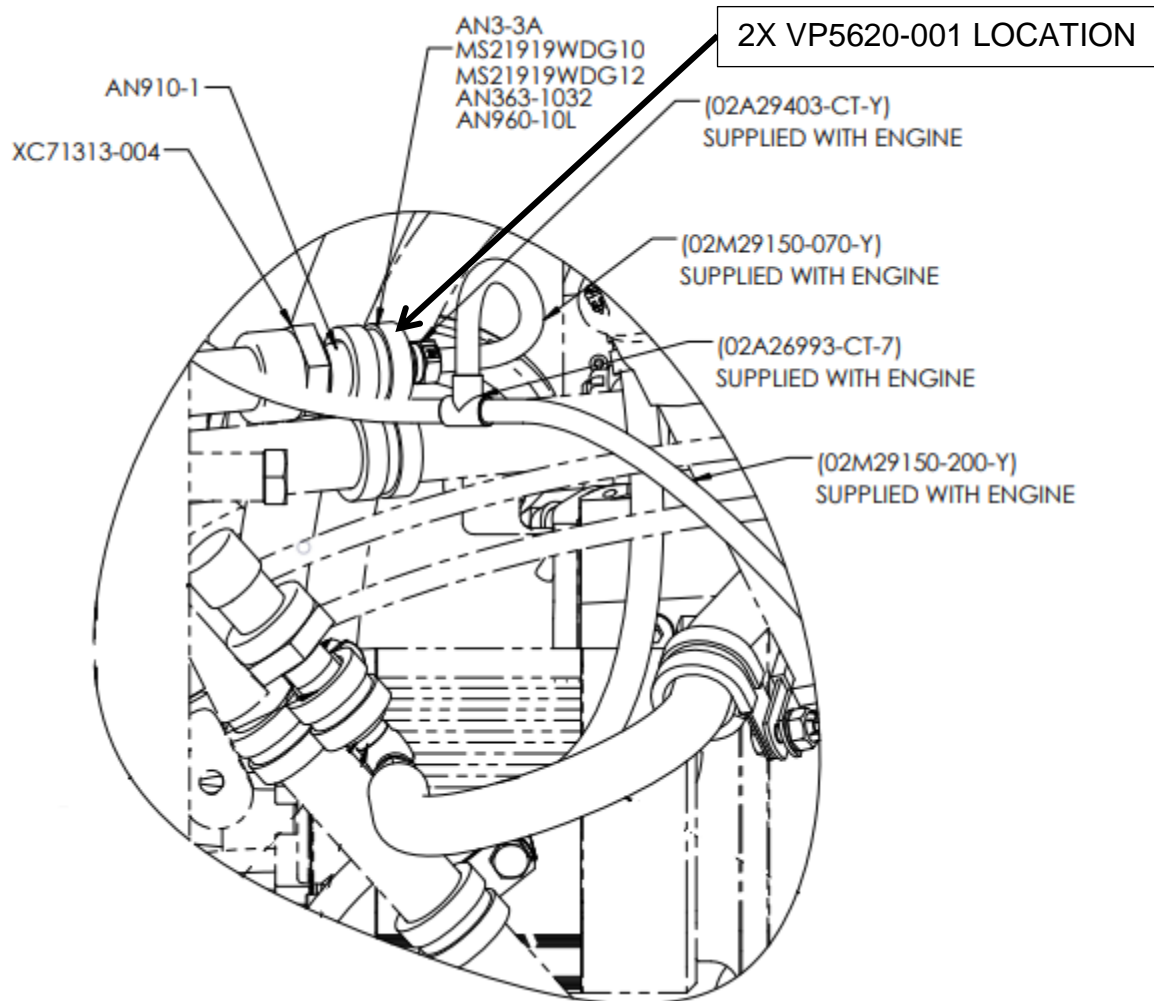

Figure 2 - MAP Pressure Snubber
8. Install 2X VP5620-001 between AN910-1 and Lycoming-supplied brass hose barb (02A29403-CT-Y) at MAP transducer. Torque to 2-3 turns beyond finger tight. See Figure 2.